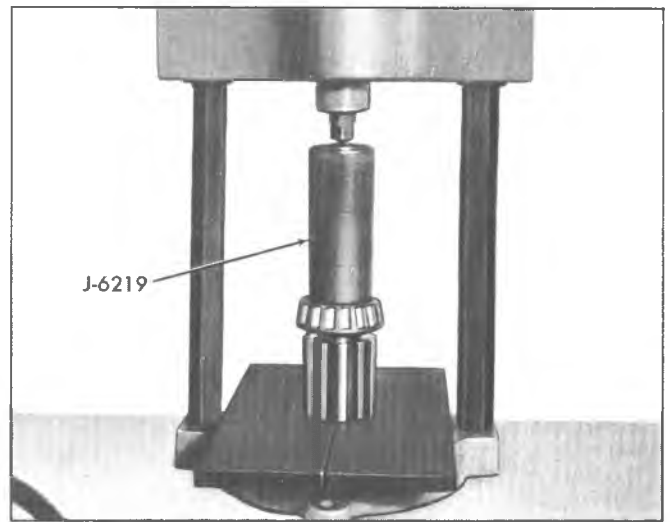

Fig. 13D--Installing Front Output Shaft Rear Bearing
4. Support front output shaft and press rear bearing onto shaft using Tool J-6219 as shown in Figure 13D.